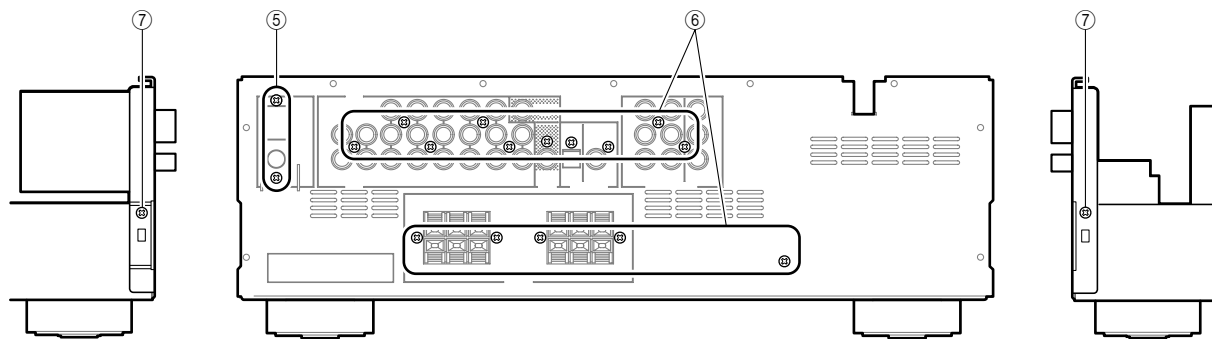

Fig. 3
- b. Remove 2 screws (5). (Fig. 3)
- d. Remove 15 screws (6). (Fig. 3)
- e. Remove 2 screws (7). (Fig. 3)